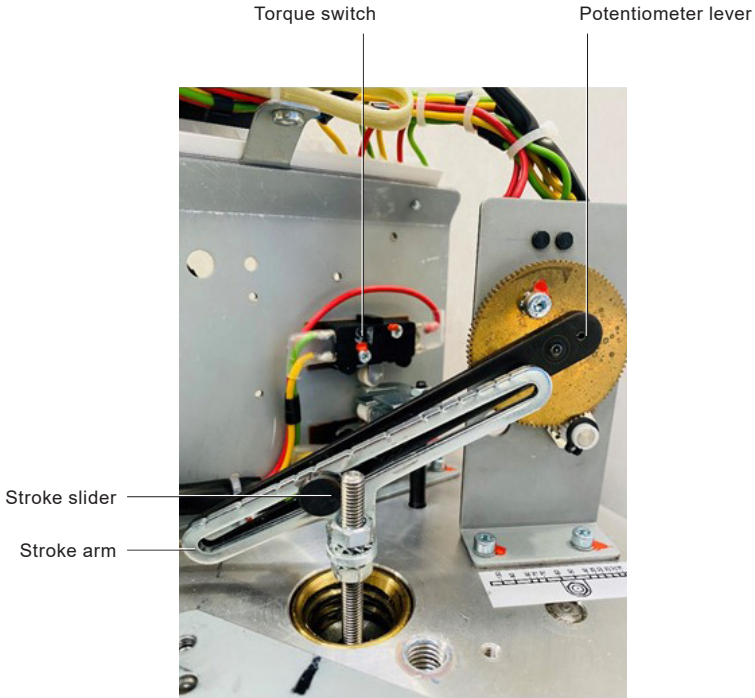

Fig. 30 8 kN+ (1,798 lbf+) AEL7 Stroke arm arrangement
The physical stroke of the 8 kN+ AEL7 Series actuator can be adjusted precisely to meet the valve stroke requirements, for example when the actuator thrust could damage the valve. This is controlled by Stroke Dependent Switch S3. Increasing or decreasing the stroke will impact the resolution of the potentiometer. Ensuring that potentiometer resolution is maintained is controlled by the Stroke Arm and Stroke Slider (Figure 30).
- The Stroke Arm and Potentiometer Lever should be parallel (Figure 30)